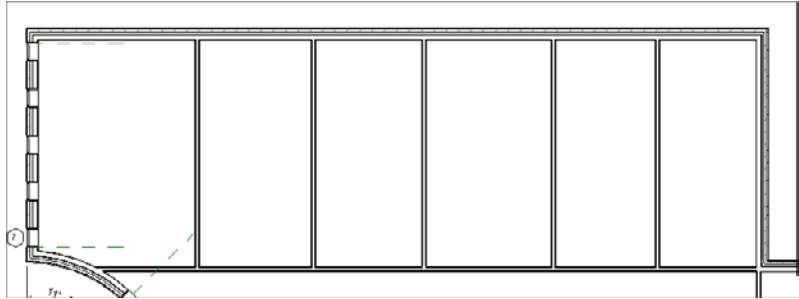

FIGURE 5.26 Place these walls as quickly as possible, and don't worry about their spacing.
4. Draw five walls, as shown in Figure 5.26. They do not have to be an equal distance from one another.